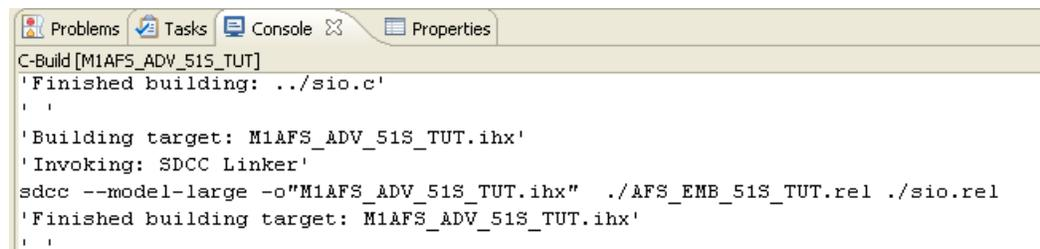

Figure 5-4 · Successful Completion of the Release Build
- The project will be compiled and linked, with results indicated in the Console window (Figure 5-4).